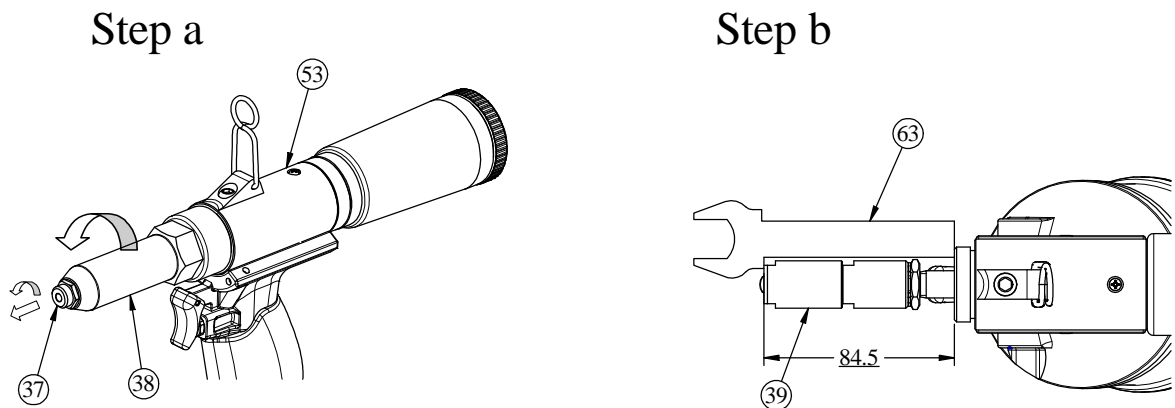

Fig. 2 Detail illustration of change the nosepiece, jaw, and jaw pusher.
- a. Loosen and remove the nosepiece (Index 37 in Figs. 2 & 5), then set up the desired nosepiece (Index 37~37-3 in Figs. 2 & 5) on frame head as shown in Fig. 2;